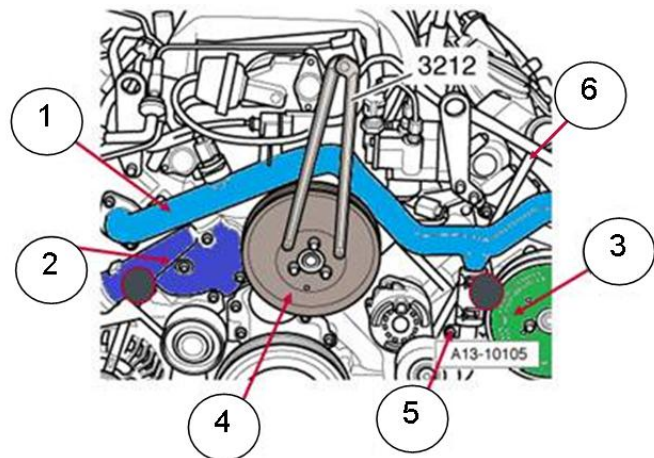

Figure 6. Engine component removal
- Coolant pipe (Figure 6,1)
- Coolant flange (Figure 6,2)
- Pulley and, if needed, bracket of power steering pump (Figure 6,3)
- Pulley of water pump (Figure 6,4)
- Coolant tube (Figure 6,5)
- Dipstick tube (Figure 6,6)
1. Become familiar with the special tool set VAS6825 (Figure 6):